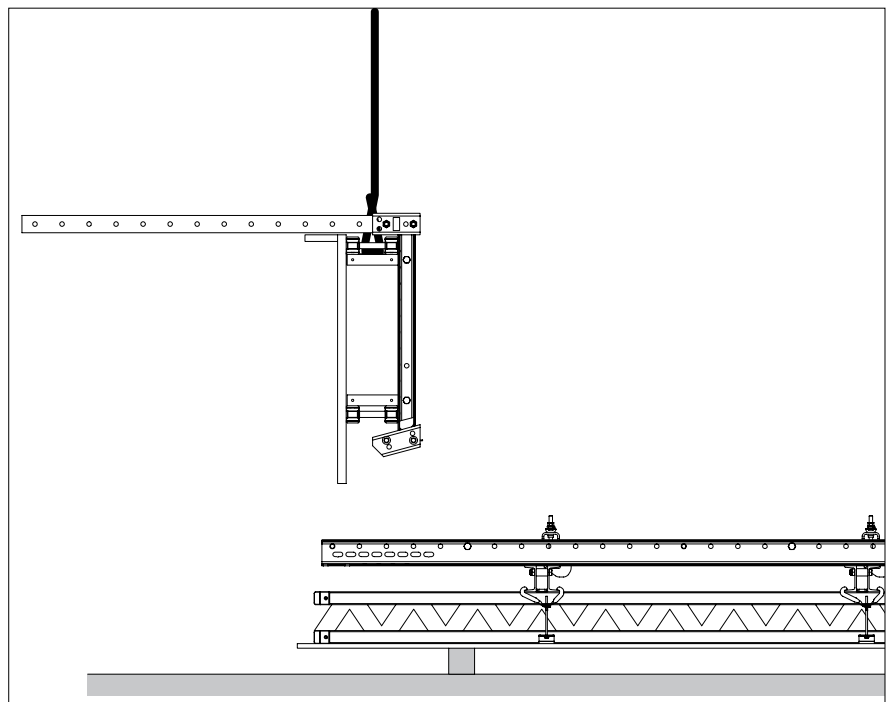

Fig. C1.10
5. Attach the concreting platform on the girders to the crane lifting gear and transport to the formwork. (Fig. C1.10)